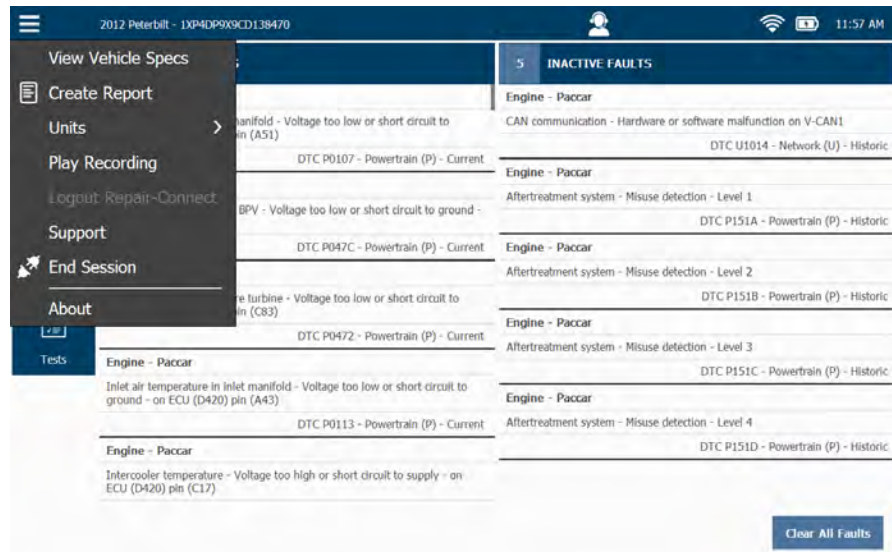

Figure 4.57 Diagnostics Menu
- 3 Touch the **Back Arrow** to return to the Diagnostics Menu (Figure 4.57).